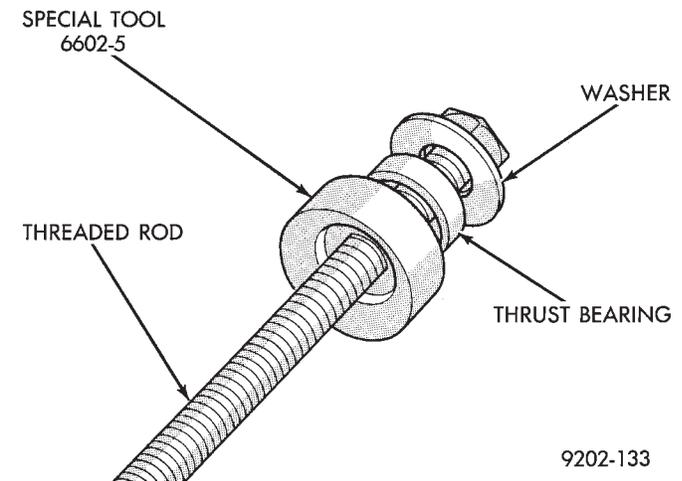

Fig. 3 Bushing Removal Tools
- (1) Position and clamp lower control arm in a vise.
- (2) Assemble the washer, thrust bearing and large bushing disk, Special tool 6602-5 onto the threaded rod from Bushing Remover/Installer, Special Tool 6602 (Fig. 3).